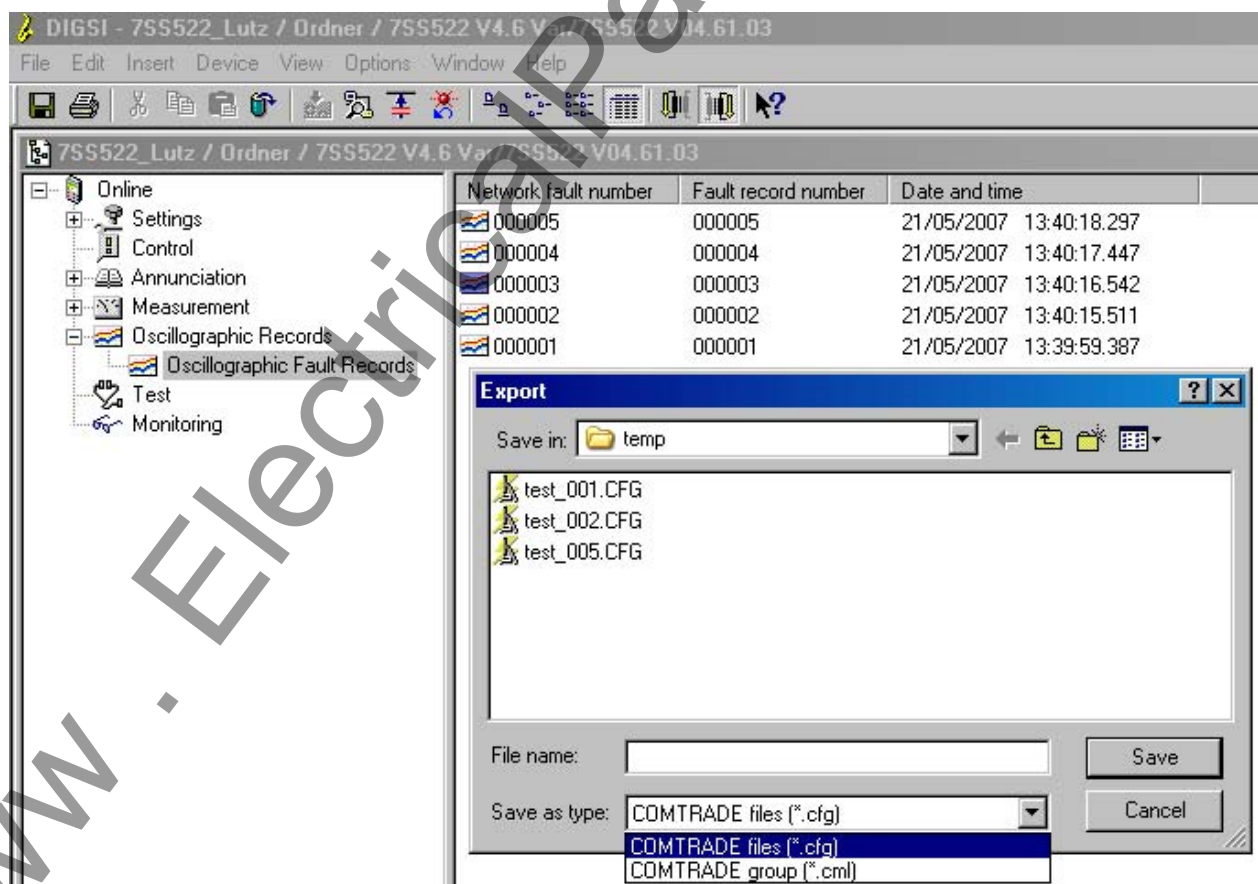

Figure 6-13 Saving the Fault Record
- ❑ Enter path and file name and select for **File Type** "COMTRADE-Group (*.cml)" (Figure 6-13, page 223). In this way, bay names, assignments and scalings will be maintained.